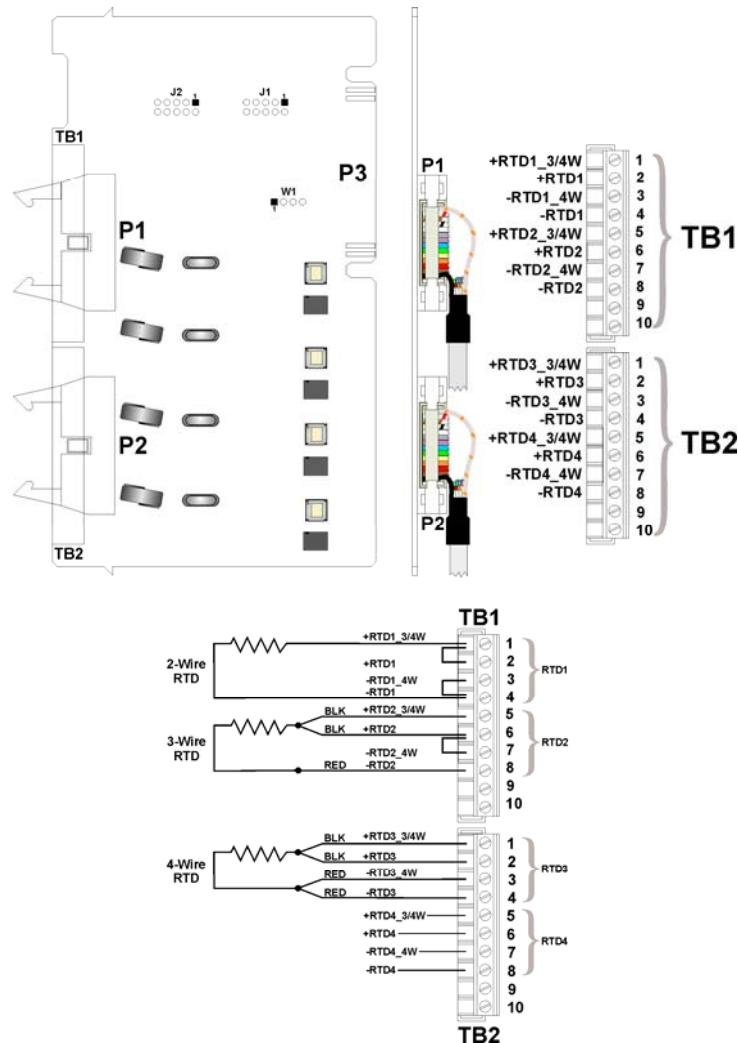
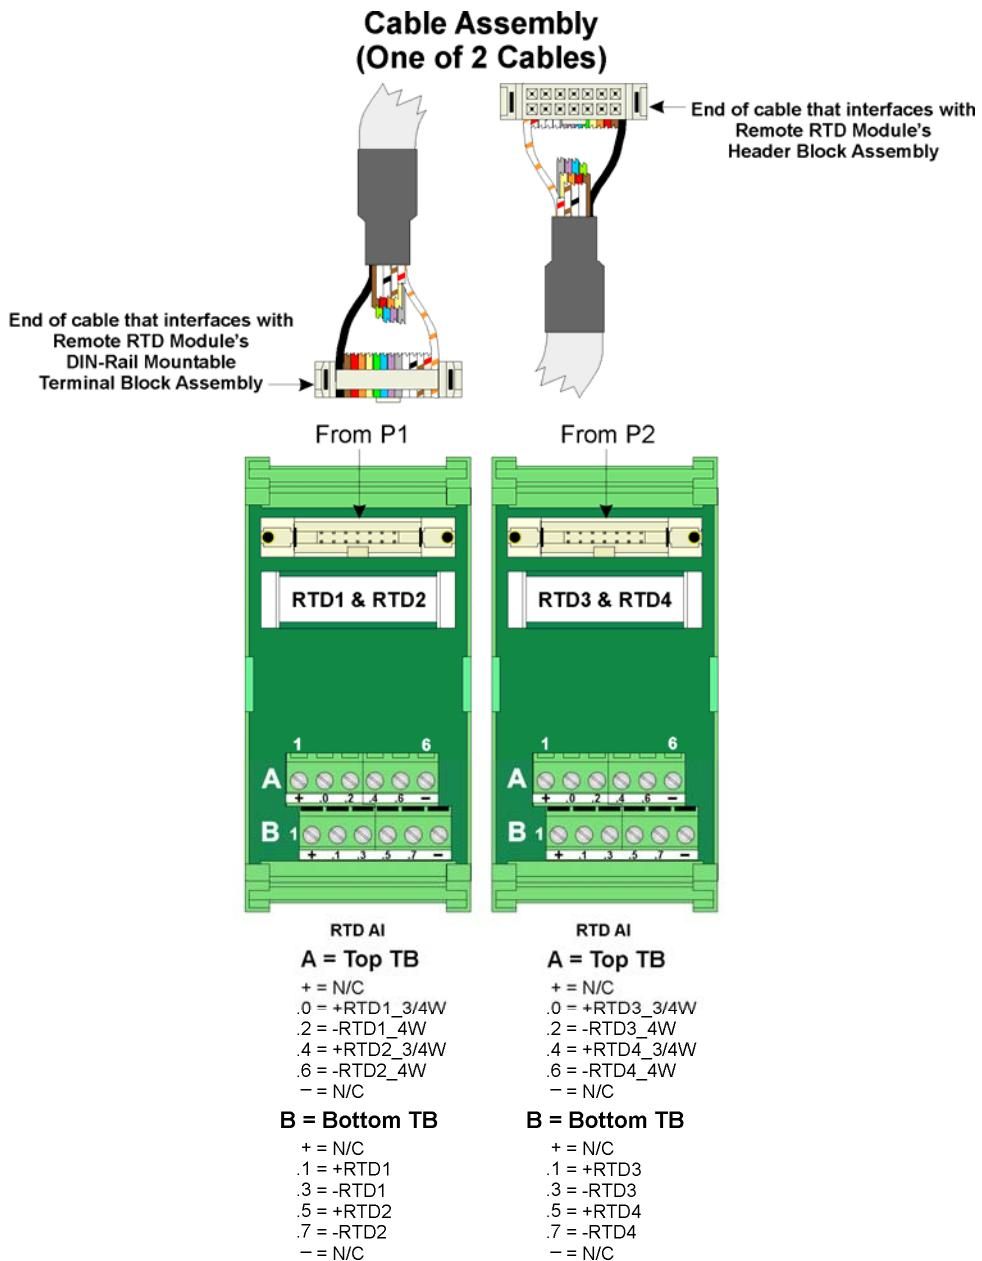

Figure 3-27. Isolated RTD Module Wiring (Local Termination)
Figure 3-28. Isolated RTD Module Wiring (Remote Termination)
RTD Input modules provide a total of four inputs. Firmware detects the RTD type (2-, 3- or 4 platinum wire) via the installation of jumper wires on the terminal block for 2-wire and 3-wire RTDs (see *Figure 3-27*).
**Wiring the Module** *Figure 3-27* shows field wiring assignments for locally terminated isolated RTD modules. *Figure 3-28* shows field wiring assignments for remotely terminated isolated RTD modules.
*Figure 3-28* also provides wiring diagrams for 2-wire, 3-wire, and 4-wire RTDs to the Local RTD Module Terminal Blocks; wiring assignments, i.e., +RTD#\_3/4W, -RTD#\_4W, +RTD# and -RTD# are